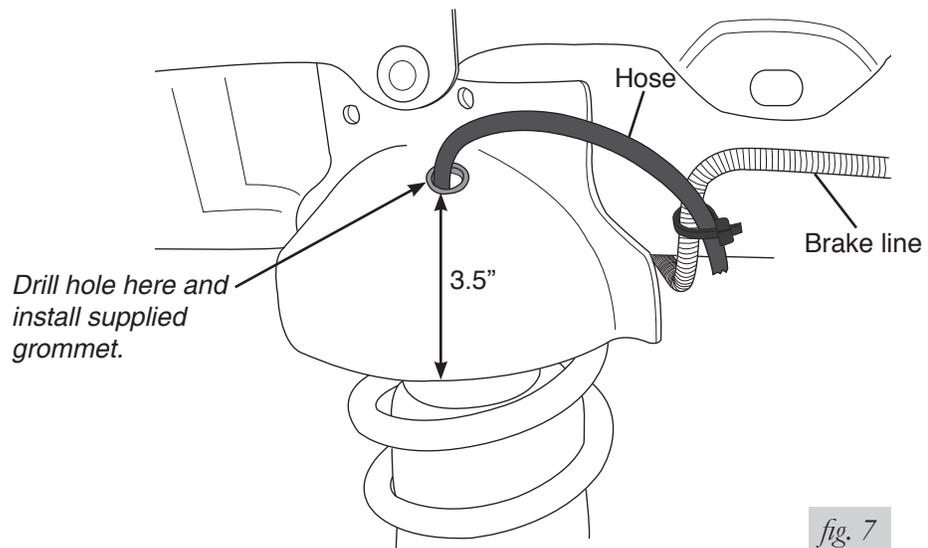

fig. 7
- You will need to drill a hole through the upper spring seat frame reinforcement in order to gain access to the cylinder for the hose. Measure up from the bottom edge of the reinforcement 3.5" at the center of the spring (fig. 7).
2. Leave slack at the top for the hose to move in and out freely during normal driving and in case the vehicle is serviced on a frame contact hoist (fig. 7).